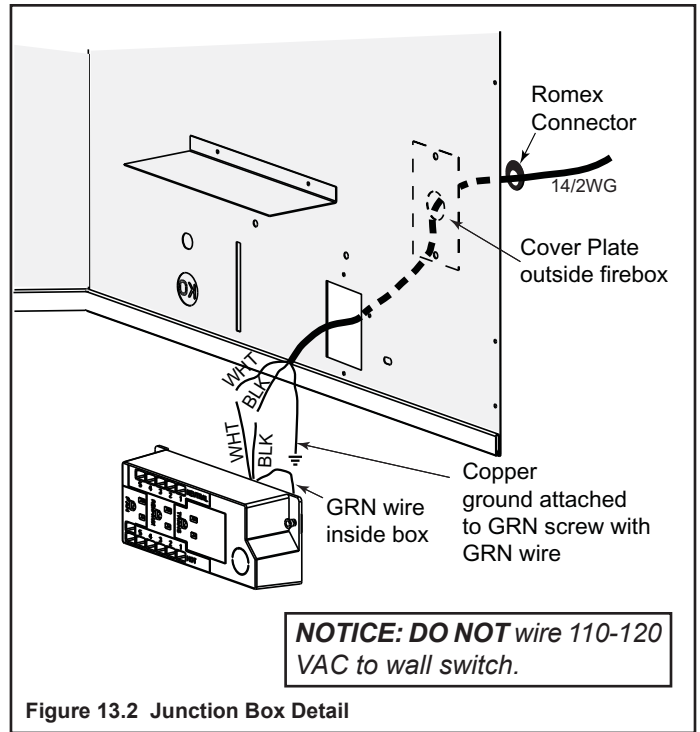

Figure 13.2 Junction Box Detail
- Remove the cover plate located on the outer shell - right side (see Figure 13.2).
- Remove the screw attaching the junction box/receptacle to the outer shell, rotate the junction box inward to disengage it from the outer shell (see Figure 13.2).
- Pull the electrical wires from outside the appliance through this opening into the valve compartment. See Figure 13.2.